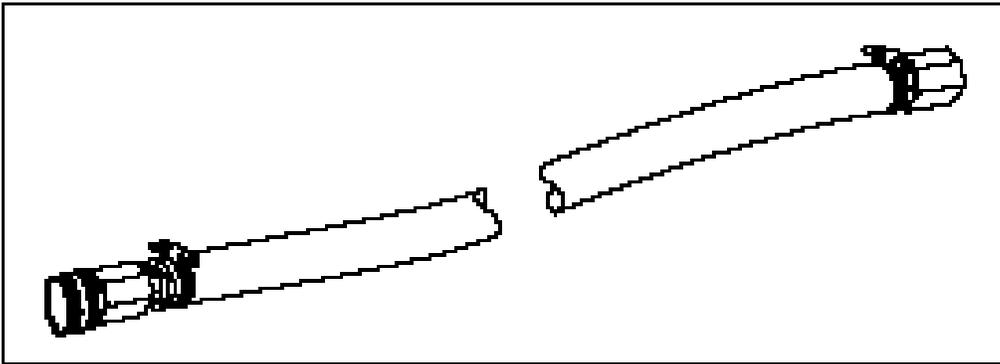

Figure 4
- Flow Control Burner Hose. Figure 4. The flow control burner hose connects to the fuel flow control valve and supplies the fuel to the burner shell assembly.